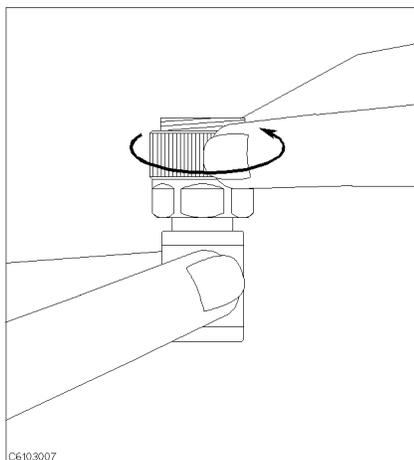

**Figure 3-7.**
8. Connect the  $0\ \Omega$  termination on the APC-7® connector as shown in Figure 3-7.